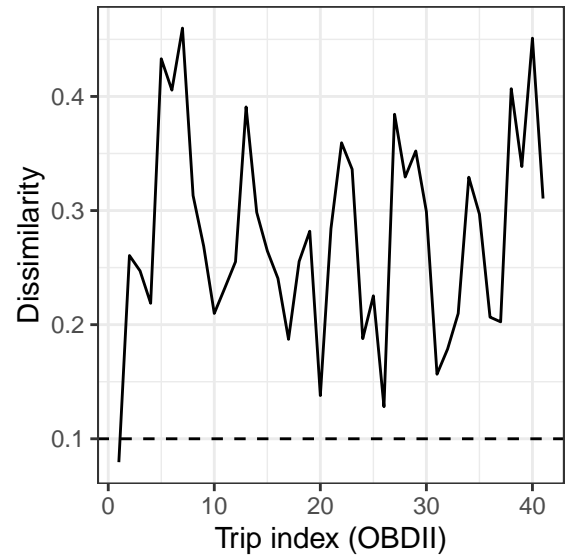

Fig. 5. Minimum values of dissimilarity for each trips in OBDII data set
**Find the best-matched trips.** In the previous section, we have discussed how to find the lagging time using dissimilarity measure. To find a best-matched OBDII trip for a given smartphone trip, we find the OBDII trip whose minimum of the dissimilarity with the given smartphone trip is the lowest among the whole collection of OBDII trips in the data set. However, since we can not guarantee that the lowest minimum of the dissimilarity implies that the two trips matched each other, we set 0.1 as a threshold. Thus, if the lowest minimum dissimilarity is less than 0.1, we conclude that the pair of OBDII and smartphone trips matched with each other. Fig. 5 represents the minimum of dissimilarity for each trip in OBDII data with the first trip in the mobile data set. The dotted line, in Fig. 5, indicates the threshold for the matched trip. Since the dissimilarity of the first trip is lowest among OBDII trips and it is less than 0.1, we select that the first trip in OBDII data as the best-matched trip with the first trip in mobile data.